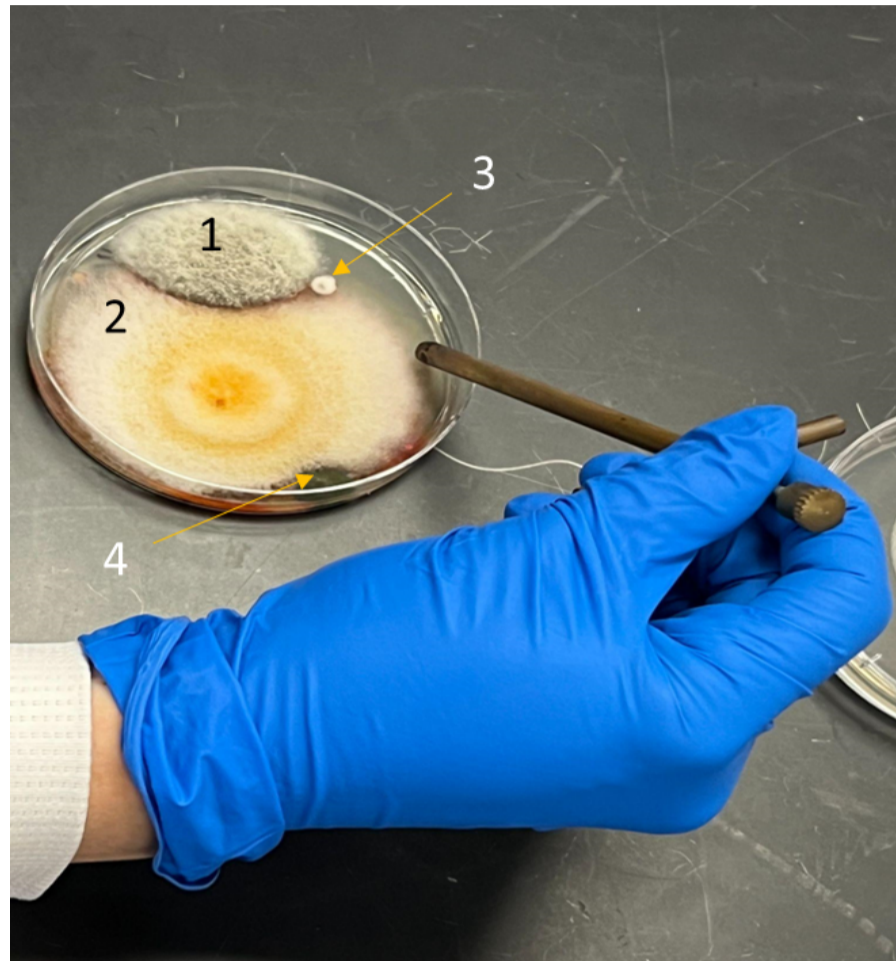

Figure 4.1 Image by Author
1. Most likely, you will have more than one fungal colony growing on your PDA. As you can see in the photo below (figure 4.1), the student has four different fungal colonies, labeled one through four.